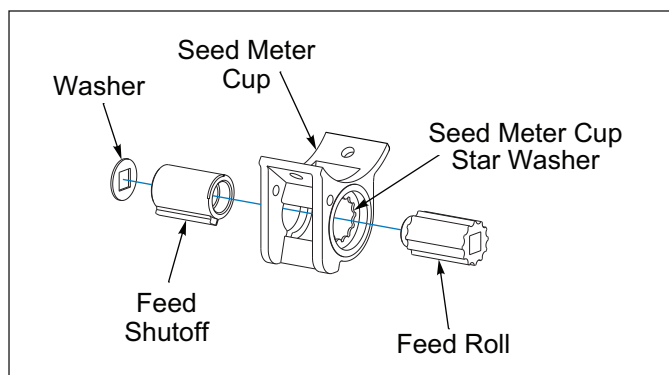

Figure 4-20: Micro-Meter
- Ensure that the Washers are adjacent to Seed Meter Feed Shutoffs. **See Figures 4-20 and 4-21.**